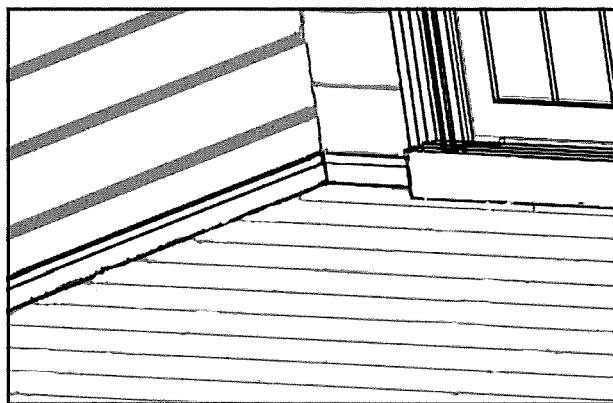

FIG 20
5. Cut the skirting boards to suit ( NOT UNDER DOOR FRAMES) and fix with 40mm oval nails at approx 400mm centres (fig 20)